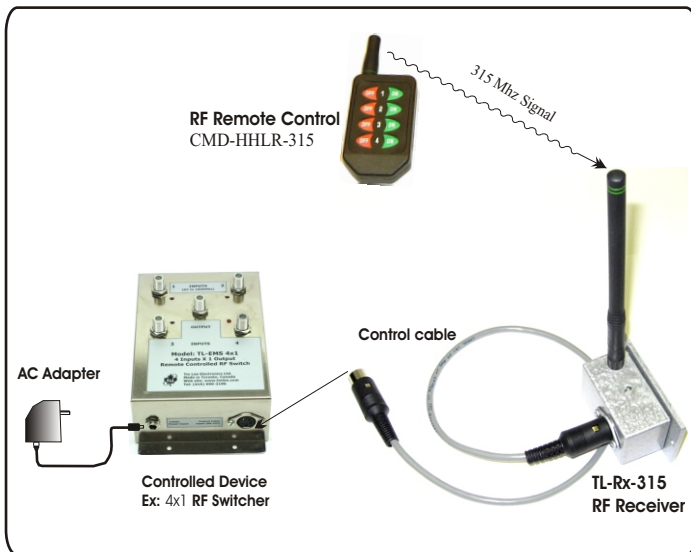

Figure 1 RF Remote Control for RF Signal Switcher
Thank you for purchasing model TL-Rx-315. It is a general purpose radio frequency (RF) receiver that operates at 315 MHz. Together with a compatible handheld RF transmitter, they provide indoor wireless remote control for a variety of TLE or third party devices. For example, figure 1 shows wireless remote control of RF signal switch (four input and 1 output) used for remote RF/Video signal monitoring.